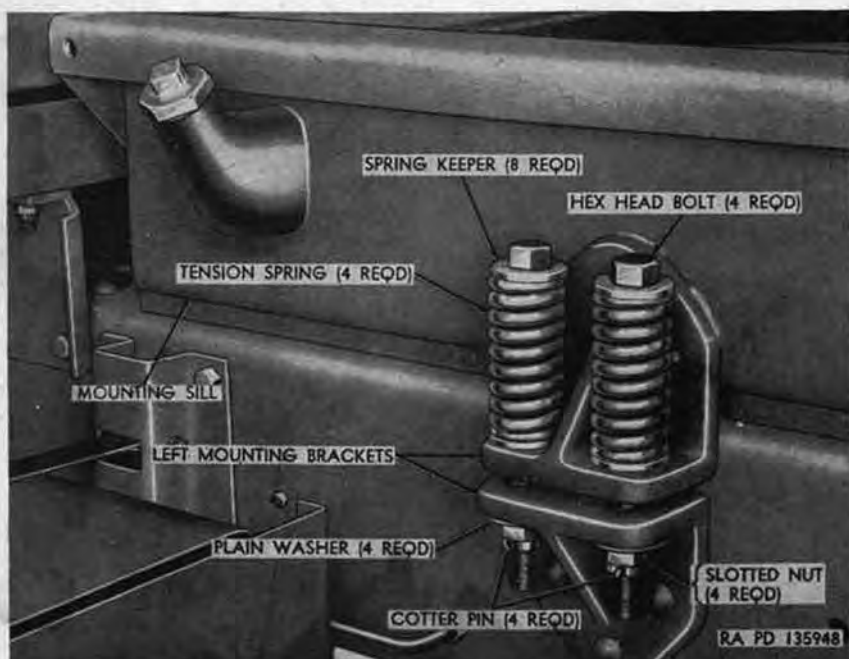

Figure 331. Subframe left front mounting M51.
- (7) Remove two cotter pins (fig. 331), slotted nuts, plain washers, tension springs, hex-head bolts, and four spring keepers
Note. Before lowering subframe, be sure that mounting sills (fig. 331) are in position on top of left and right side rails.
- (2) Align holes in subframe left and right front mounting brackets (fig. 331) with holes in brackets bolted to left and right frame side rails, and secure with four spring keepers, two hex-head bolts, tension springs, plain washers, slotted nuts, and cotter pins.